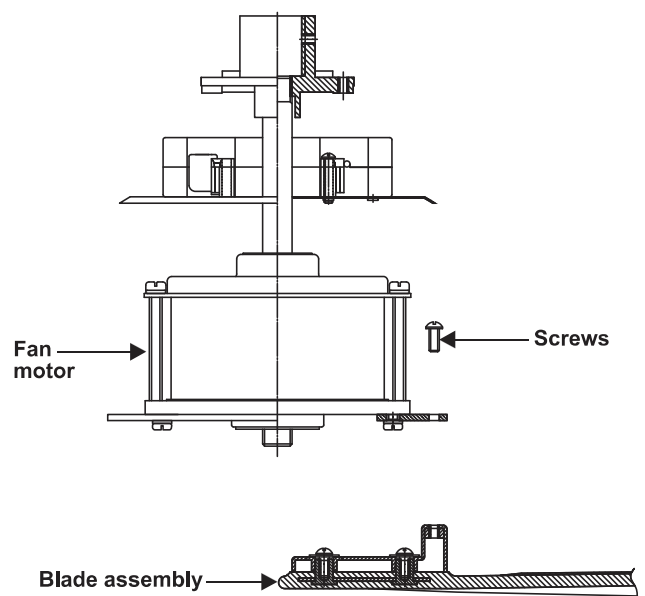

Figure 7
3. Fasten the blade assembly to the fan motor using the blade screws supplied. Repeat process with other blades. Tighten each screw and make sure the blade is straight. (Fig. 7)